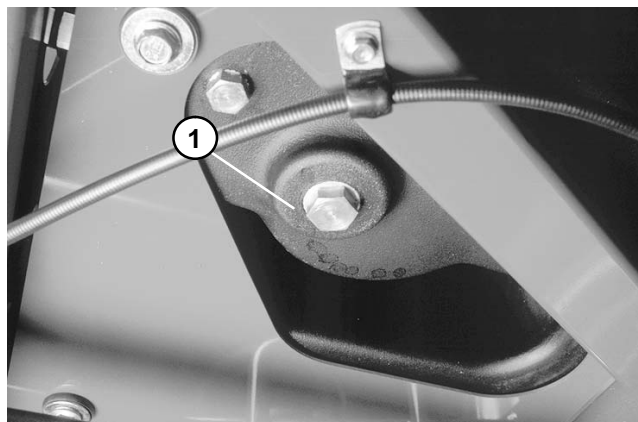

Figure 29
2. Remove drain plug from bottom of reservoir and let hydraulic fluid flow into drain pan (Fig. 29). Reinstall and tighten plug when hydraulic fluid stops draining.